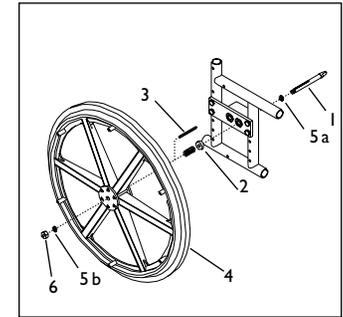

Fig. 8
**2. Opposite Side Assembly (Fig. 8)**
- Add one washer (5a) to axle (1).
- Add spacer (2) to axle.
- Add wheel (4) to axle.
- Insert key (3) into keyway on axle (1).
- Add washer (5b) and nut (6).